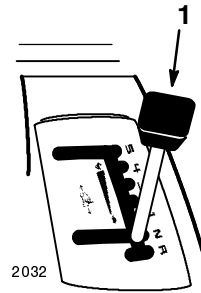

Figure 8
3. Move the ground speed selector into neutral “N” (Fig. 8).